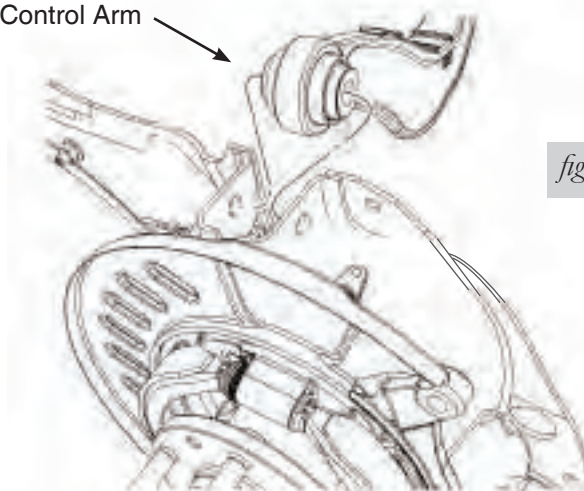

fig. 1
9. Remove the outboard upper arm and toe link bolt (fig. 1 & 2).
2. Leave slack at the top for the hose to move in and out freely during normal driving and in case the vehicle is serviced on a frame contact hoist (fig. 1).